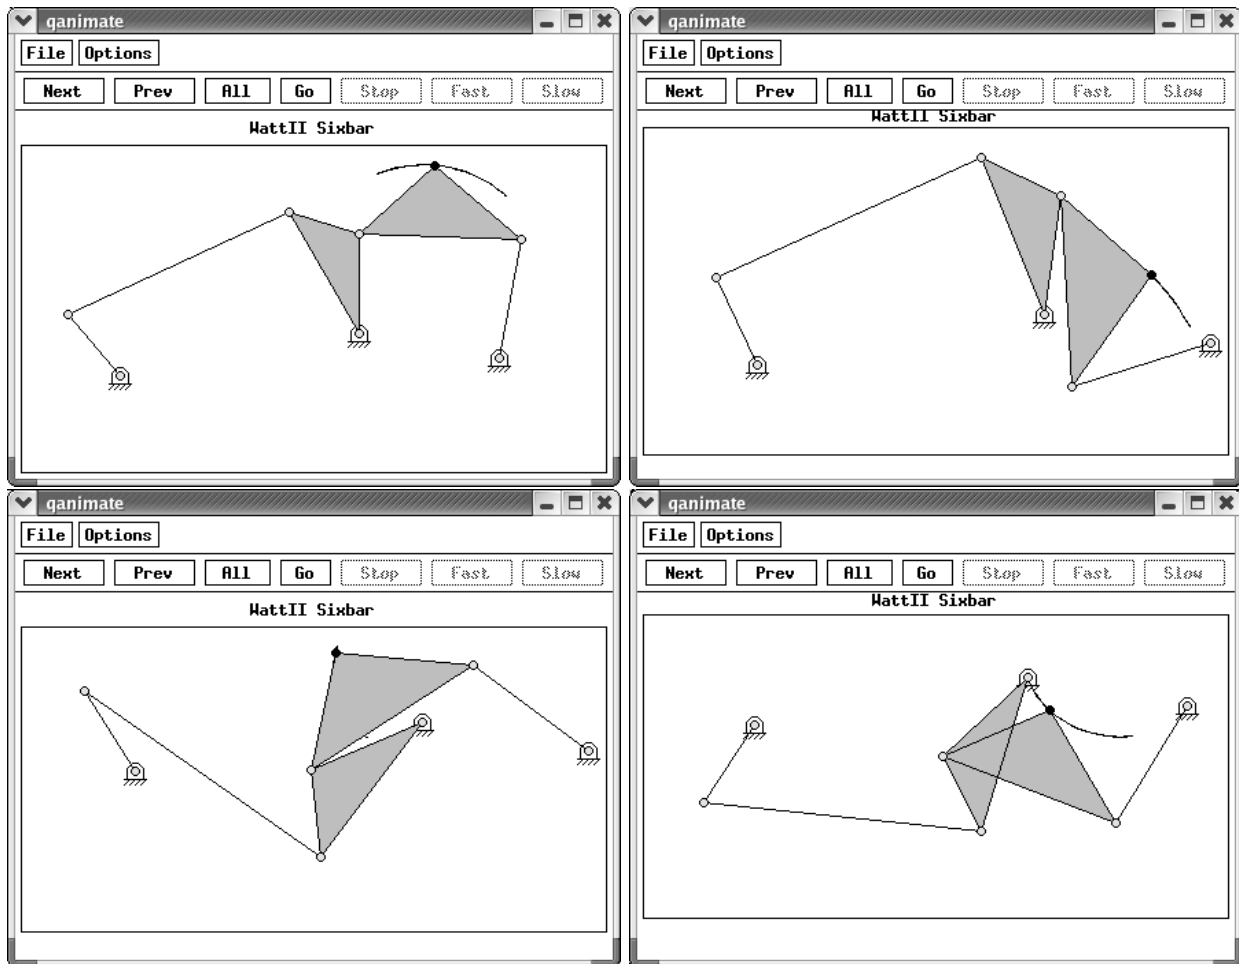

Figure 5.15: Output of Program 32.
Again, argument `branchnum` specifies the branch number of the Watt (II) sixbar linkage to animate. Program 32 is an example program that simulates the motion of the Watt (II) sixbar defined in previous problem statements. Snapshots of animation for the various branches are shown in Figure 5.15. Note that for